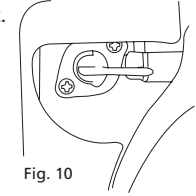

Fig. 10
• Before stopping the engine make sure that all the electrical loads are disconnected from the generator AC outlet socket. When the generator engine has stopped and before storage, turn the fuel cock lever to the OFF position as shown in figure 10.